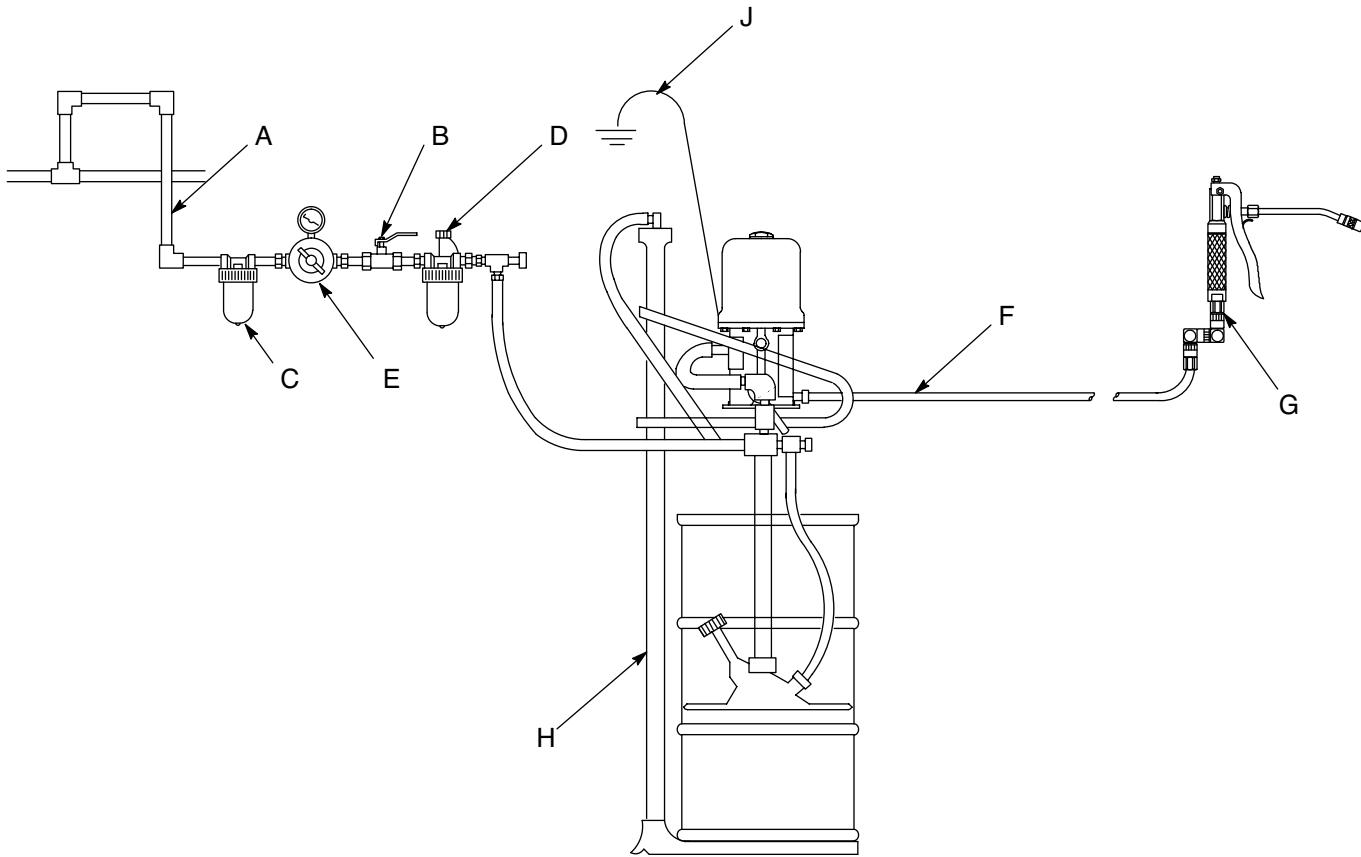

FIG. 2: Typical Installation
Install the air line accessories in the approximate order shown in Fig. 2. Install a bleed-type master air valve (B) within easy reach of the pump, upstream from the air regulator (E). Install an air filter (C) to remove harmful dirt and moisture from your compressed air supply. For automatic air motor lubrication, install an air line oiler (D) close to the pump air inlet. Install and air regulator (E) to control the pump speed.
The installation shown in Fig. 2 is only a guide for selecting and installing system components and accessories. Contact your Graco distributor for assistance in designing a system to suit your particular needs.
Use the air regulator (E) to control the pump speed and fluid pressure. See FIG. 2. Always use the lowest pressure necessary to obtain the desired results.